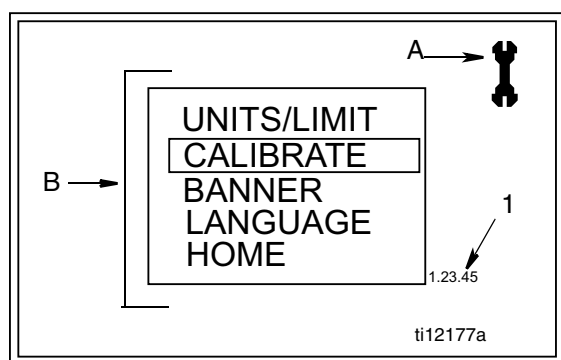

FIG. 12
Main Setup Screen (FIG. 12)
Main Screen Features (FIG. 12)
2. Then at the same time, also press the center, ENTER button (b) (FIG. 11). Hold both buttons down until the Main Setup Screen shown in FIG. 12 displays.